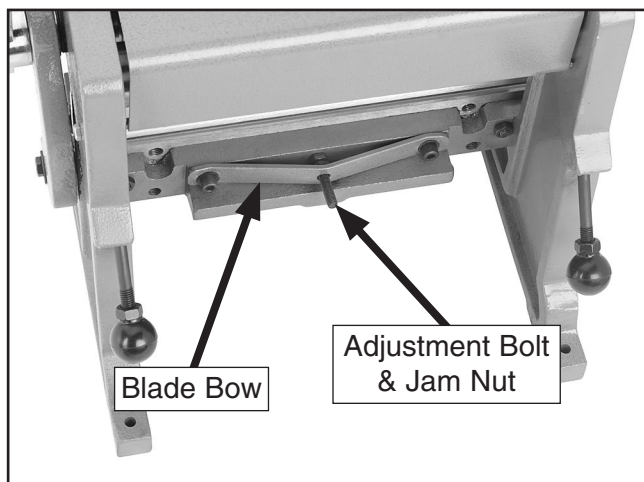

Figure 58. Blade bow.
The adjustment bolt of the blade bow is used to remove any slight bow in the cast iron cross beam that the brake finger receiver and upper shear blade are attached to (see **Figure 58**).
1. Hold the adjustment bolt still, then turn the jam nut to adjust the center of the cross beam in or out (see **Figure 58**).